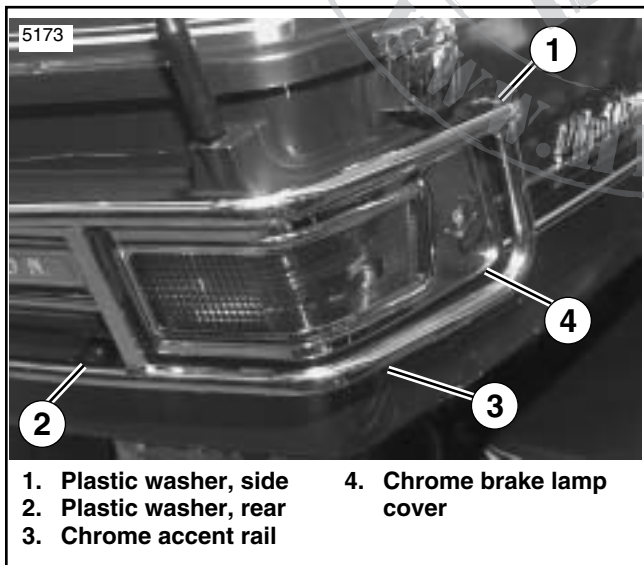

Figure 1. Accent Rail, Part No. 53667-89
On vehicles with Ultra Classic Tour-Pak Chrome Accent Rail, Part No. 53667-89 Only. See Figure 1. There may not be enough clearance between accent rail (3) and brake lamp cover (4) for this brake lamp accent kit. If this situation occurs, use four black plastic washers (1 and 2) from kit in four accent rail mounting positions to provide proper clearance. Plastic washers (1 and 2) from kit fit between original plastic cup washers and Tour-Pak. In the side mounting locations, mounting holes may need to be slightly slotted for proper fit. Plastic washers from kit will cover elongated slotted holes in side mounting locations, if slotting holes was necessary. If slotting side holes was not necessary, you may use either original plastic washer found at the side location on motorcycle or new plastic washers from kit. (This **does not** apply to Accent Rail Kit, Part No. 53667-89A.)